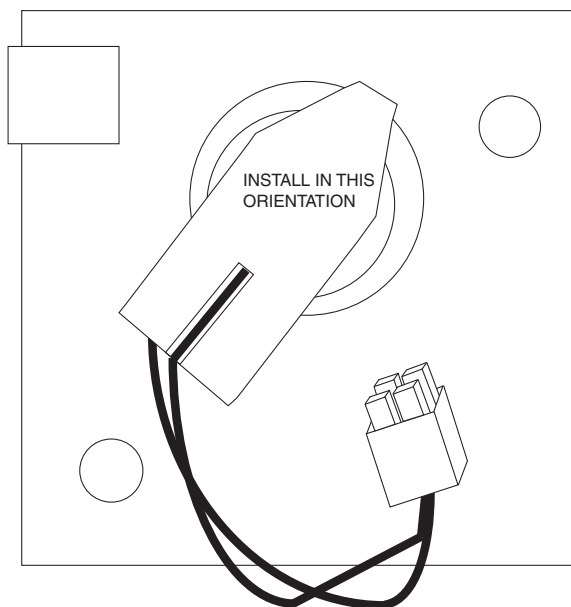

Fig. 52 — Compressor Motor Sensor Harness Installation (under motor protection module)
1. A new S1-S2 thermistor wiring harness is shipped with the CoreSense kit and must be used. The wiring harness connector block should be fully inserted on the three pins in the orientation shown in Fig. 52 for proper operation.